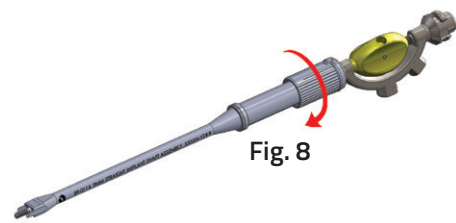

Fig. 8
4. With the Inserter Shaft prongs pointing away from you, rotate the ribbed collar counter-clockwise through several revolutions until the ribbed collar clicks and no gap remains between the ribbed collar on the Inserter Shaft and the Instrument Body. **(Fig. 8)**